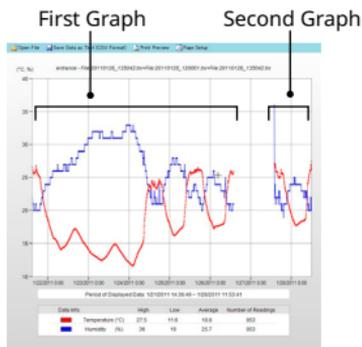
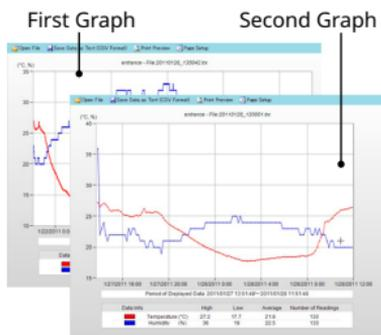

Figure 1
Figure 2
7. When you select to add the selected data file into the currently displayed graph, it will be combined with the most recently opened graph as Figure 1. When you select separating the graph, the selected data file will be displayed in the separate graph window as Figure 2.